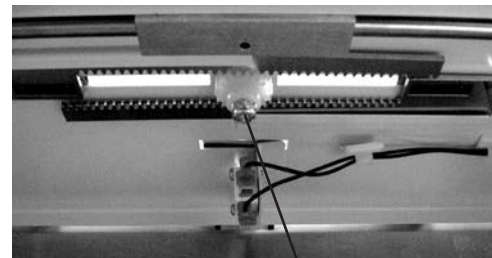

Fig. 20
4. Remove the 11/32" nut (Fig. 20) holding the self-centering gear and remove the gear.